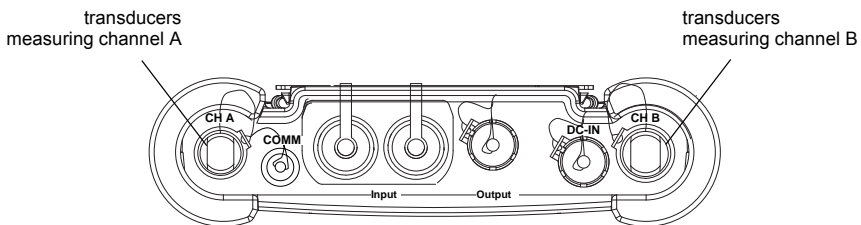

Fig. 7.5: Connections of the transmitter FLUXUS F608
The connections are on the upper side of the transmitter (see Fig. 7.5).
- Remove the socket cover from the transmitter for the connection of the output adapter (see Fig. 7.5).